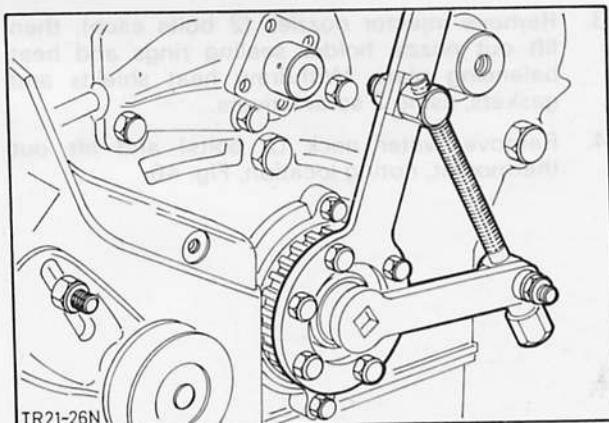

Fig. 49. Slacken crankshaft hub bolt using Special Tool 21-018/019
20. Remove crankshaft hub bolt, using Special Tool 21-018/019, Fig. 49. Remove crankshaft hub using standard extractor.